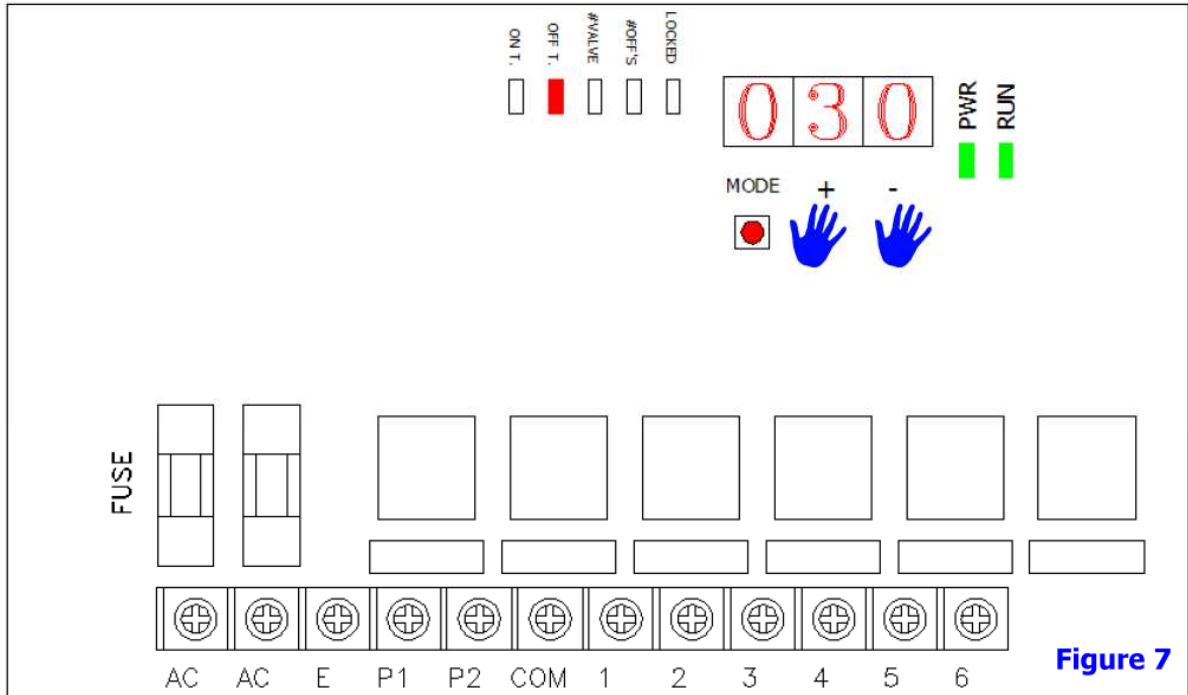

Figure 7
- Press "+" or "-" to adjust the valves interval time (figure 7).